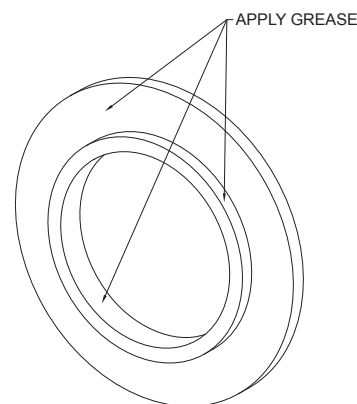

Fig. 11
3. Apply a thin layer of grease to the mating surfaces of the thrust bearings (D). Attach the upper bracket to the air spring as shown in Figure 11.